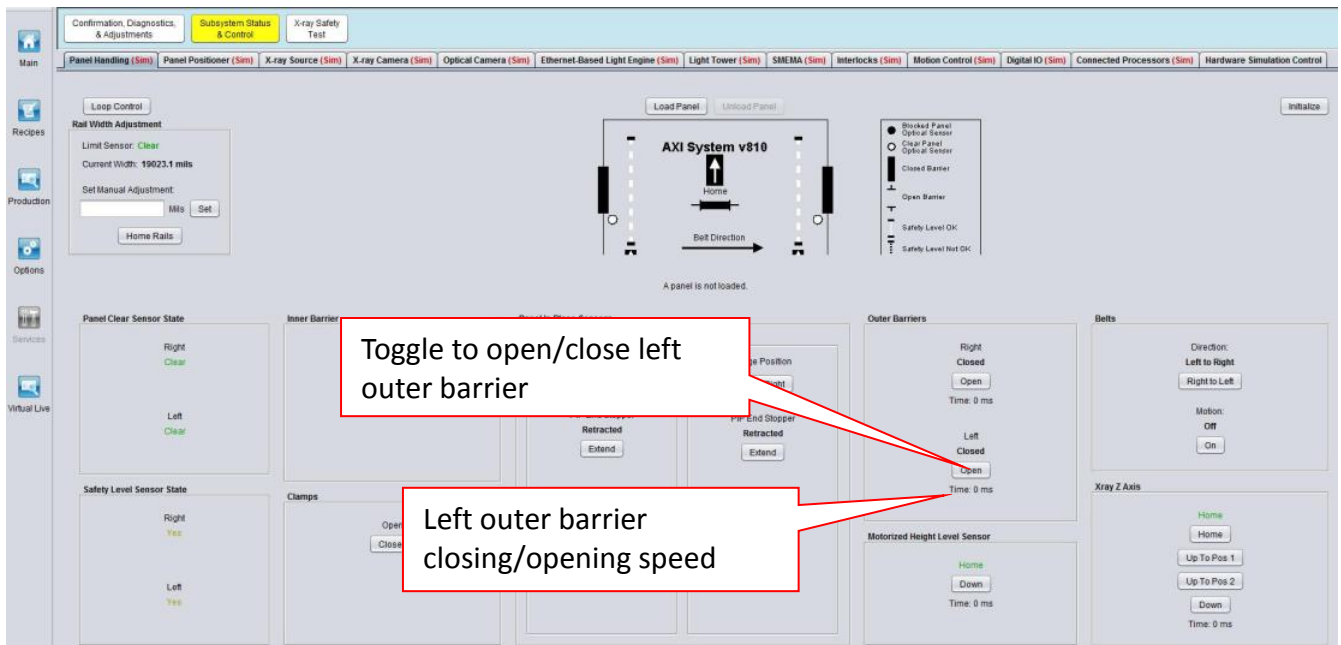

Figure 7 Left outer barrier status
- Go to Panel Handling, manually toggle outer barrier as shown in Figure 7.